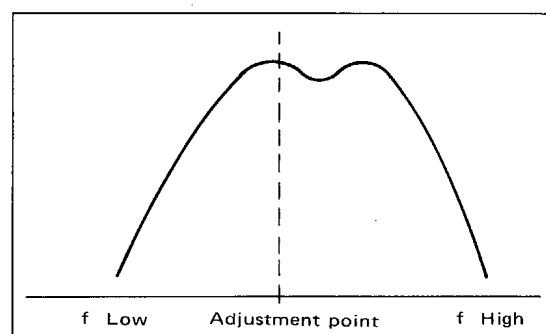

Fig. 1 S Meter Deflection
(1) Adjustment of IFT and OSC Coil in RF IF Unit
- (c) When input signal is swept in SSG mode, the S meter deflection appears as illustrated in Fig. 1.